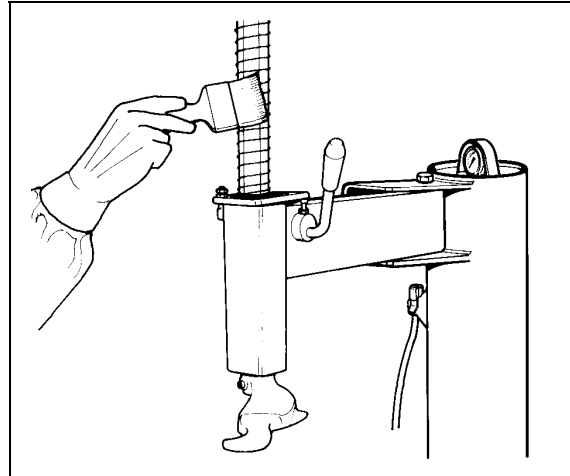

Fig.31
A. Periodically clean the vertical hexagonal rod with nonflammable liquid detergent. After this immediately lubricate with oil (Fig.31).